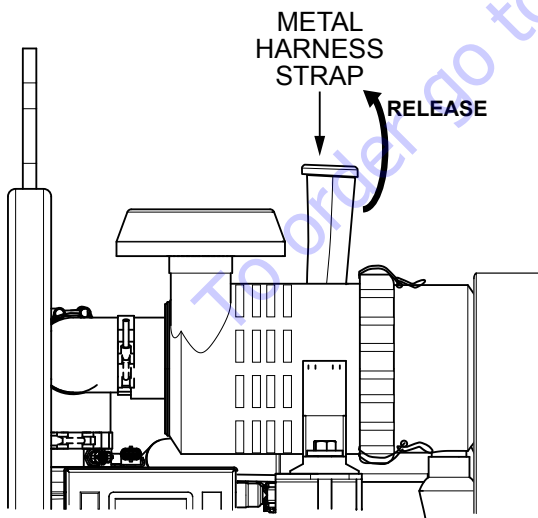

Figure 47. Releasing Metal Harness Strap
2. Release the metal harness strap that holds the air filter in place (Figure 47)